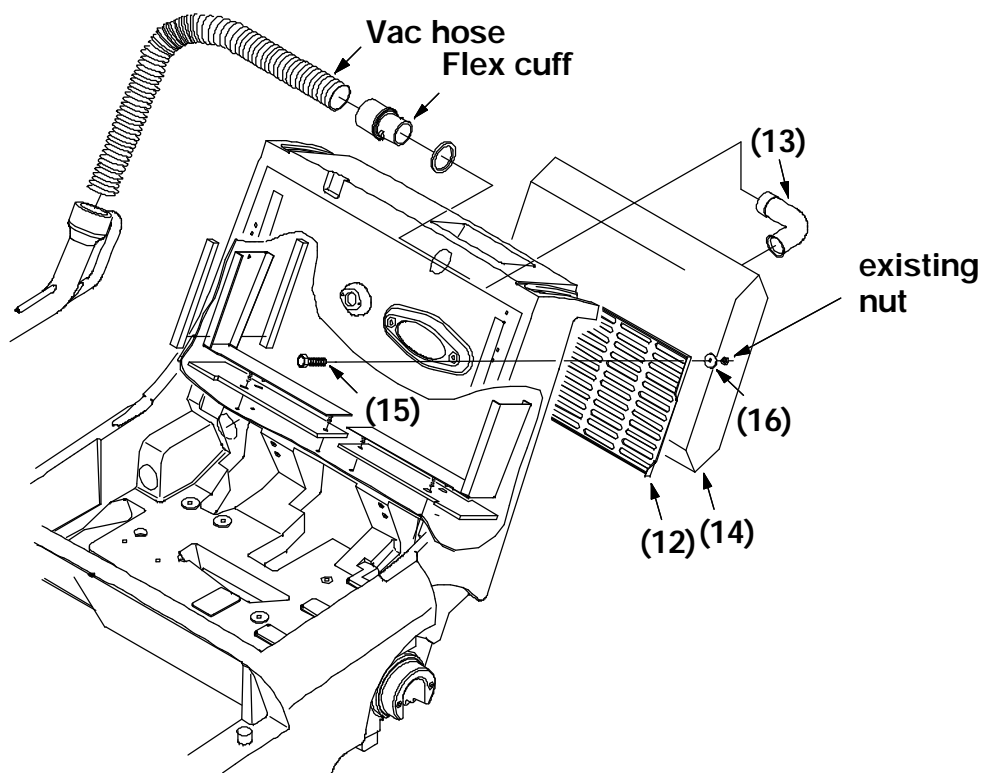

FIG. 6 Filter Bag Assembly
23. Install the tube elbow (13) into the end of the flex cuff about 1/2 inch. Reinstall the cuff and elbow in the machine frame and turn a 1/4 turn to lock. Push the elbow into the cuff so total engagement is about 1-1/2 inch. (Refer to FIG. 6)
24. Remove the two screws from the bottom hole of the hood hinges. Save the nyloc nuts. (Refer to FIG. 6)
25. Install the two pan screws (15) through the empty hood hinge holes. (Refer to FIG. 6)
26. Install the vacuum bag screen (12) over the two new screws (15). Install the two washers (16) and the two nyloc nuts saved in step 6. Hand tighten hardware. (Refer to FIG. 6)
27. Install the hole in the new filter bag over the tube elbow (13). (Refer to FIG. 6)